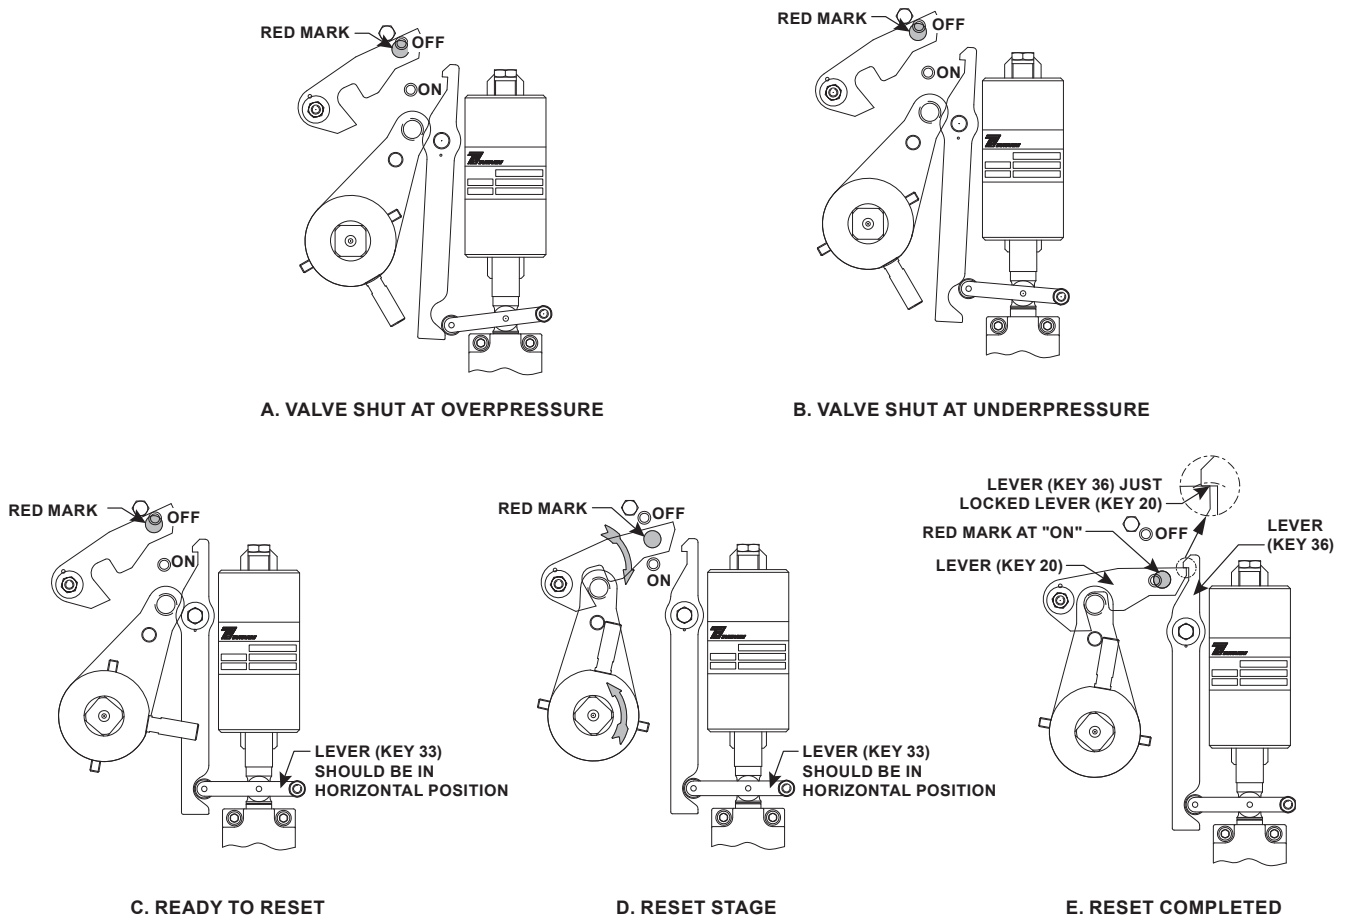

Figure 11. OS9/80X-R Series Slam-Shut Controller Resetting Position
5. From the position where the change of resistance force could be obviously felt, slowly turn the handle counterclockwise to the degree of 45° to 60° and wait until the inlet and outlet pressures are balanced lever (key 33) must be on horizontal position (indicates that the monitoring pressure of the Type BM9 at this time is equal to the normal working pressure, then continue to turn the handle until the red mark is at ON position to complete the reset operation (see Figure 11). The handle may need to be turned certain degrees: 445° for DN 200 / NPS 8, 455° for DN 250 / NPS 10 and 480° for DN 300 / NPS 12.